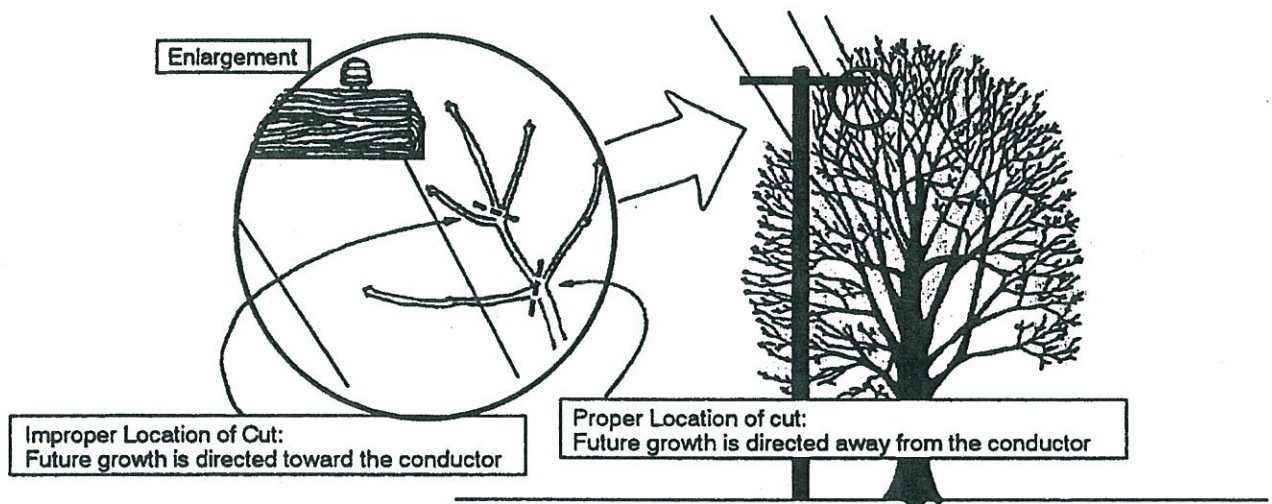

Figure 4. Natural Trimming (to direct growth away from wires)
**Natural Pruning** is the method recommended by most professionals. Natural pruning is cutting branches flush at a suitable parent limb, back toward the center of the tree. This method of pruning is sometimes called “drop crutching” or “lateral pruning”. An attempt is made to remove large branches to laterals at least one-third the diameter of the branch being removed. All cuts should be flush to avoid leaving stubs. Natural pruning is especially adapted to the topping of large trees where a great deal of wood must be removed. In natural pruning, most cuts are made on larger limbs with a saw, and little pole prune work is required. The results are natural-looking trees, even if large amounts of wood have been removed. Natural pruning is also directional pruning, since it tends to guide the growth of the tree away from the wires (Figure 4). Stubbing, on the other hand, tends to promote rapid sucker growth right back into the conductors.